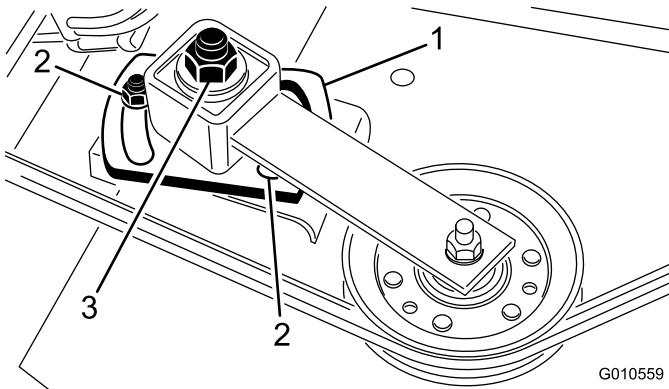

Figure 30
5. Use a socket and torque wrench to tighten the idler adjusting nut to 35-40 ft-lb (47-54 N-m) (Figure 30).